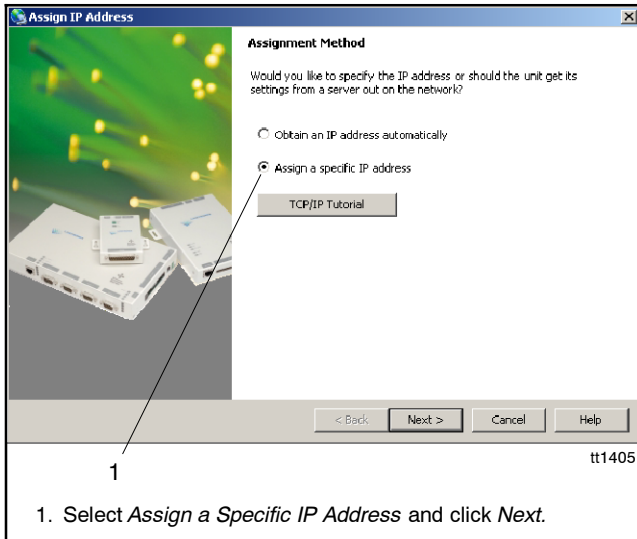

Figure 30 Assignment Method
8. Select *Assign a Specific IP Address* in the Assignment Method window, and click *Next*. See Figure 30.